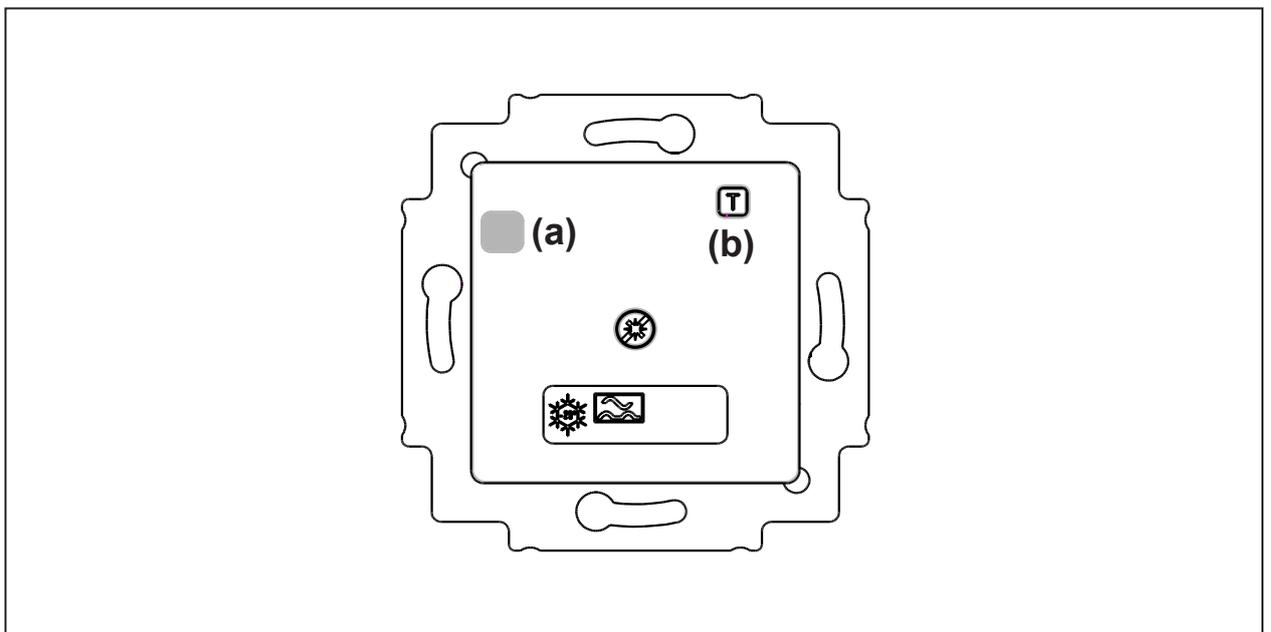

Figure 1
- Press push-button ((a), Figure 1).
- Switch on residual-current circuit-breaker with push-button ((a), Figure 1).
- Press test button **T** ((b), Figure 1).